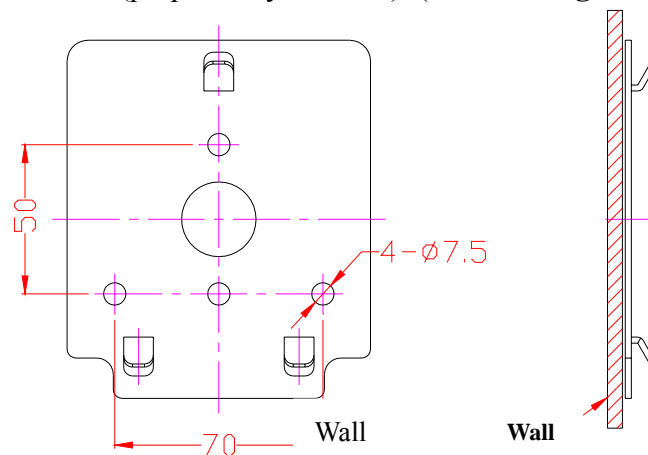

Fig 4.5-1 Dimension of Wall Mount Bracket
Step1. Select the desired location and make sure the place for the dome camera installation can sustain its weight. Pencil the relative positions of the 4 x $\phi 7.5$ bores of the wall bracket on the wall, and fix the bracket on the wall with special screws (prepared by the user). (Refer to Fig 4.5-1)